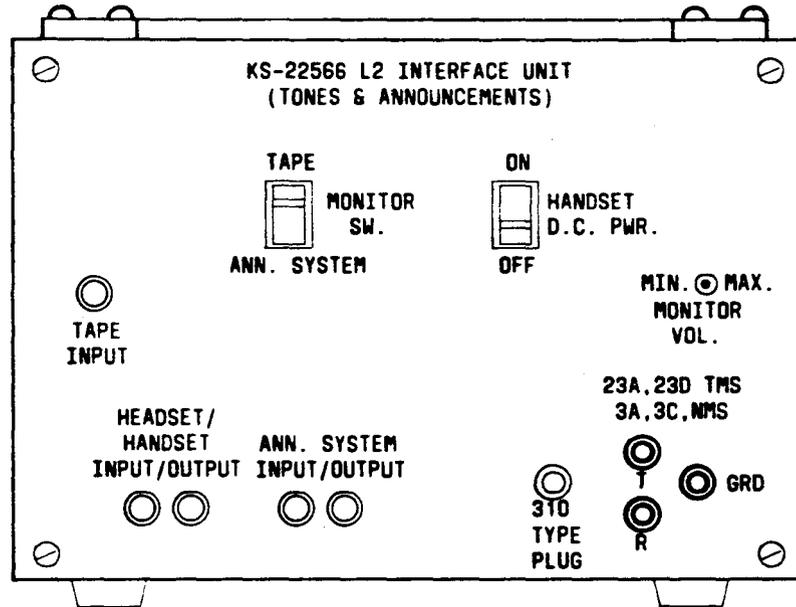

Fig. 4 - Interface Unit (3.06)
4.01 Prior to proceeding with the transcription process detailed in paragraph 4.02, the cassette Recorder/Reproducer must be calibrated for proper tape speed. This is easily accomplished by playing a speed reference tape in the cassette Recorder/Reproducer with the external output jack connected to a frequency counter. (See Fig. 4.) The speed control potentiometer on the cassette Recorder/Reproducer is then adjusted to provide a reading on the frequency counter that agrees with the calibration frequency recorded on the speed reference tape. The speed reference tape used for this procedure should be Standard Tape Laboratory catalog number 29 which has a recorded frequency of 3150 Hz. The cassette Recorder/Reproducer speed control potentiometer should be adjusted so that the frequency reported on the frequency counter is in the range 3145 to 3155 Hz.